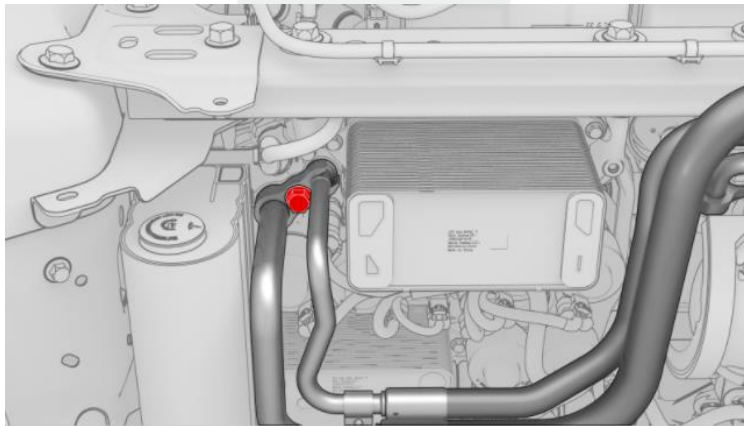
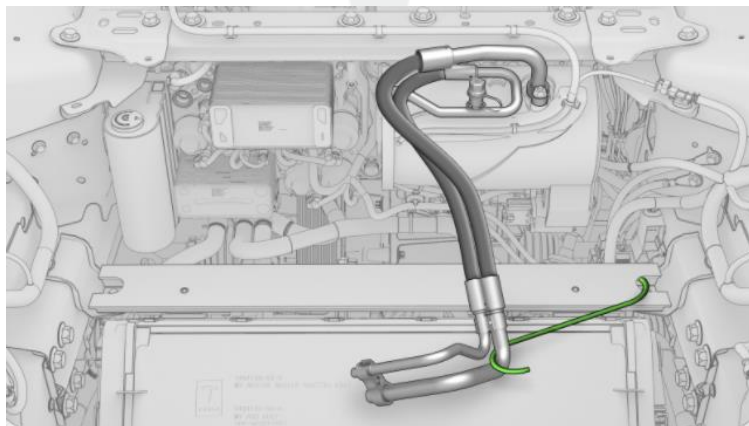

Figure 1
Figure 2
4. Remove the 13 mm bolt that attaches the Supermanifold-to-compressor A/C line to the Supermanifold (Figure 1).
5. Remove the Supermanifold-to-compressor A/C line from the Supermanifold, and then use an S-hook to restrain the line to the underhood storage unit support beam (Figure 2).
21. Release the Supermanifold-to-compressor A/C line from the S-hook (Figure 2), install the A/C line into the Supermanifold, hand-install the 13 mm bolt that attaches the A/C line to the Supermanifold, and then tighten (torque 22 Nm) (Figure 1).